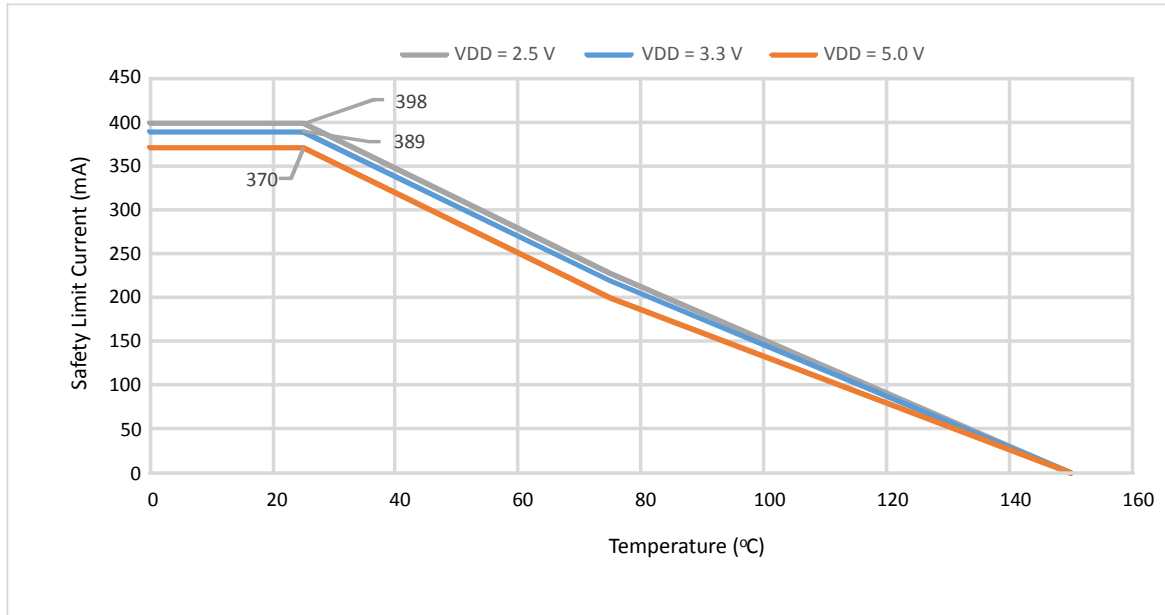

Figure 4.2. (QSOP-20) Thermal Derating Curve, Dependence of Safety Limiting Values with Case Temperature per VDE 0884
1. Maximum value allowed in the event of a failure; also see the thermal derating curve in [Figure 4.2 \(QSOP-20\) Thermal Derating Curve, Dependence of Safety Limiting Values with Case Temperature per VDE 0884 on page 17.](#)